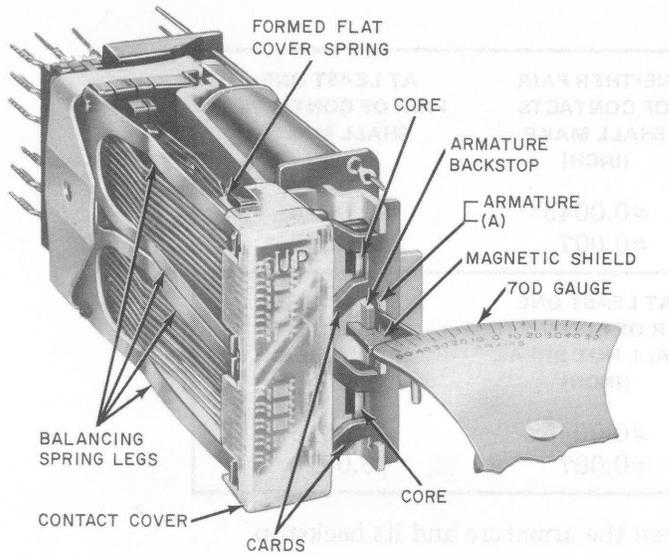

Fig. 2—AK-Type Relay Having Formed Flat Cover Spring
2.06 Armature Back Tension: Fig. 2, (A)—The armature shall bear against its backstop with a pressure of
Use the 70D gauge applied to the armature in front of the armature backstop as shown in Fig. 2. Make sure, when checking the pressure, the gauge clears the backstop and the magnetic shield.